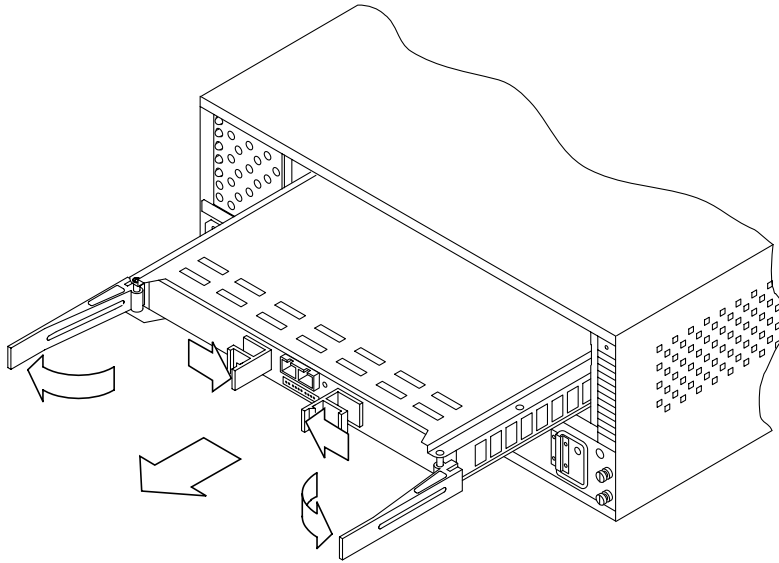

FIGURE 6-2 Removing a Controller Canister
3. Remove the failed controller canister (FIGURE 6-2).
- 5. Install the new controller canister (reverse FIGURE 6-2).**